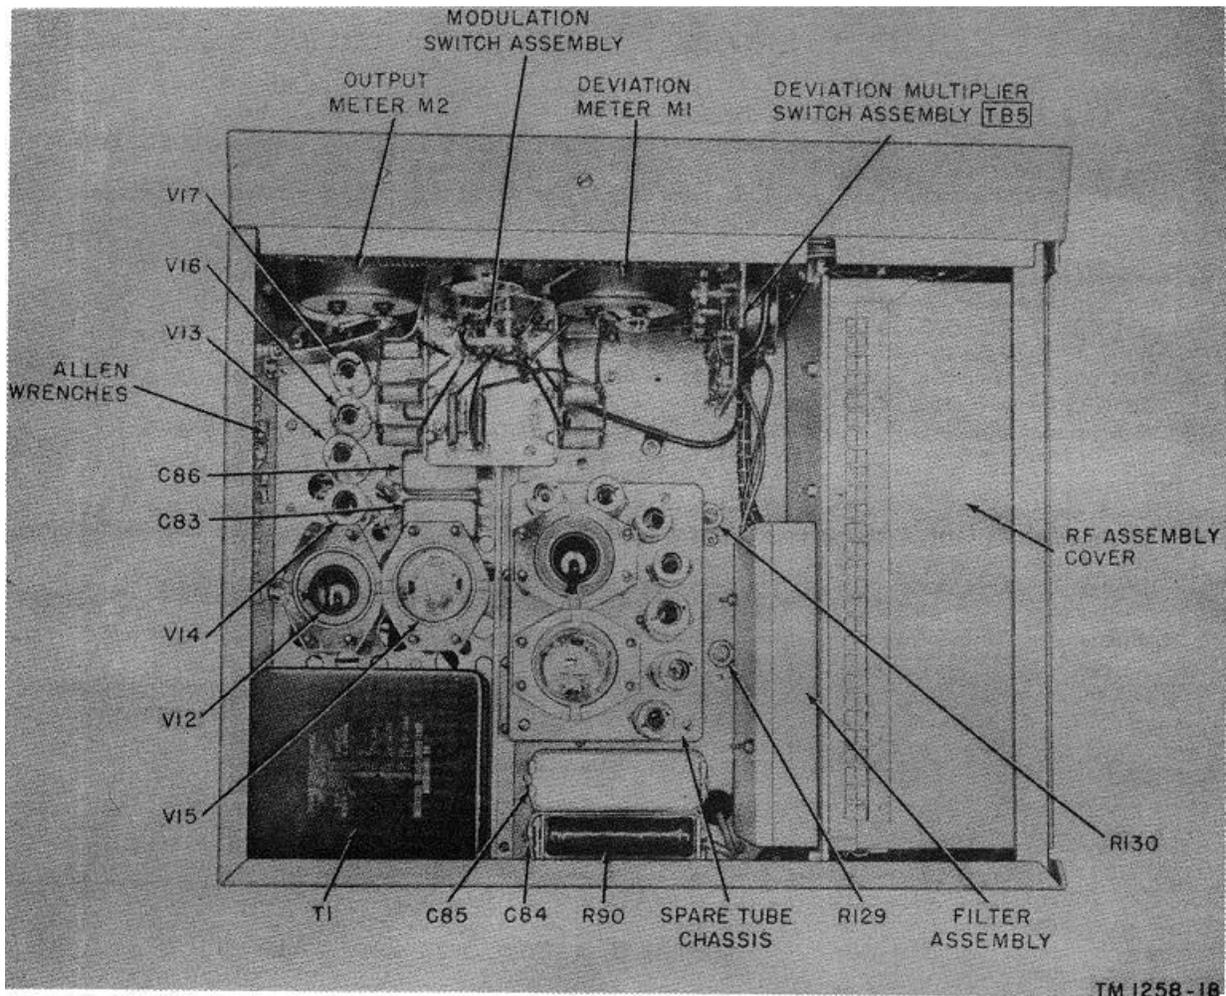

Figure 19. Signal Generator SG-3/U, top view of interior.
c. To gain access to the rf assembly, pull off the outer and inner rf shields. This permits access to all tube-socket pins. To gain access to the components in the oscillator and first doubler, remove the cover plate from the rf assembly (figs. 19 and 20) by removing the 25